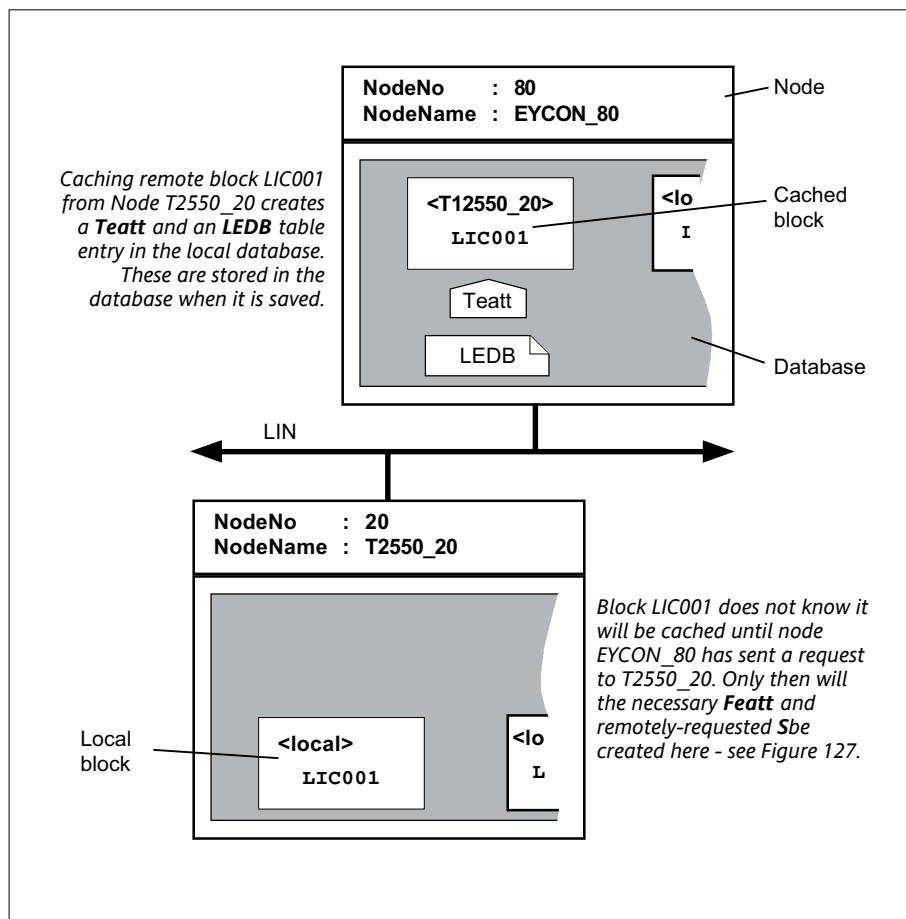

Figure 126 Configuring a cached block — initial steps
1. Configuring a cached block - the initial steps (*Figure 126*)
In *Figure 126*, two nodes (instruments) are connected on the LIN - called 'EYCON_80' and 'T2550_20' at addresses 80 and 20 respectively. The aim of this step is to cache the function block 'LIC001' running in node T2550_20, into the EYCON_80's database. This is effectively creating in the EYCON_80 an 'image' of the remote block, allowing communications across the LIN.